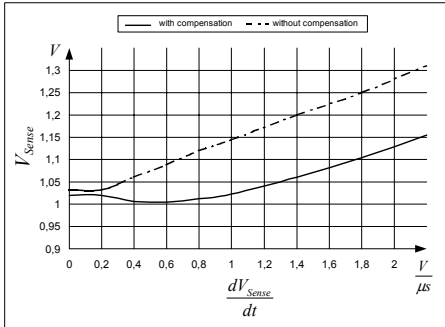

Figure 13 Overcurrent Shutdown
E.g.  $I_{peak} = 0.5A$  with  $R_{Sense} = 2$ . Without Propagation Delay Compensation the current sense threshold is set to a static voltage level  $V_{csth} = 1V$ . A current ramp of  $dI/dt = 0.4A/\mu s$ , that means  $dV_{Sense}/dt = 0.8V/\mu s$ , and a propagation delay time of i.e.  $t_{Propagation\ Delay} = 180ns$  leads then to an  $I_{peak}$  overshoot of 12%. By means of propagation delay compensation the overshoot is only about 2% (see Figure 13).